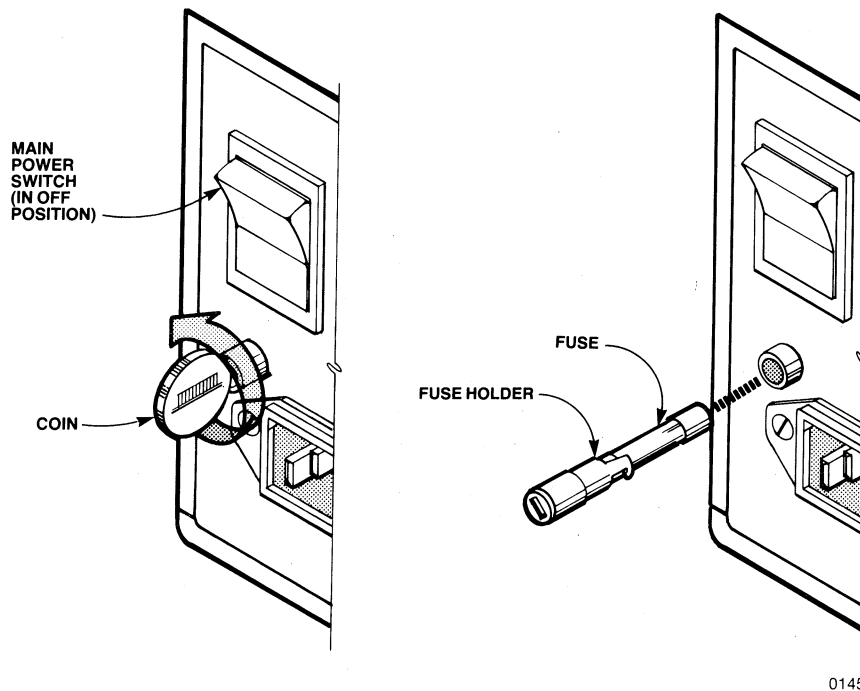

Figure 2-2 Replacing Power Fuse
The fuse is located directly beneath the MAIN POWER switch on the back panel. (Figure 2-2 shows the fuse being removed.)
2. Using a flat blade screwdriver or a small coin, turn the fuse holder counter-clockwise as shown in Figure 2-2.
3. Once loosened, slide the fuseholder and fuse out as shown in Figure 2-2.